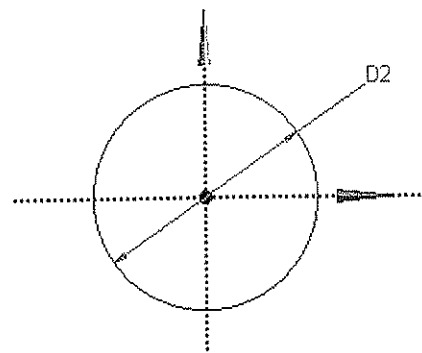

Figure 4-44 The circle of diameter 100mm
7. Edit the value of the dimension to **100** in the **Details View** window; the circle is modified according to the specified value and is displayed in the **Graphics** window, as shown in Figure 4-44.